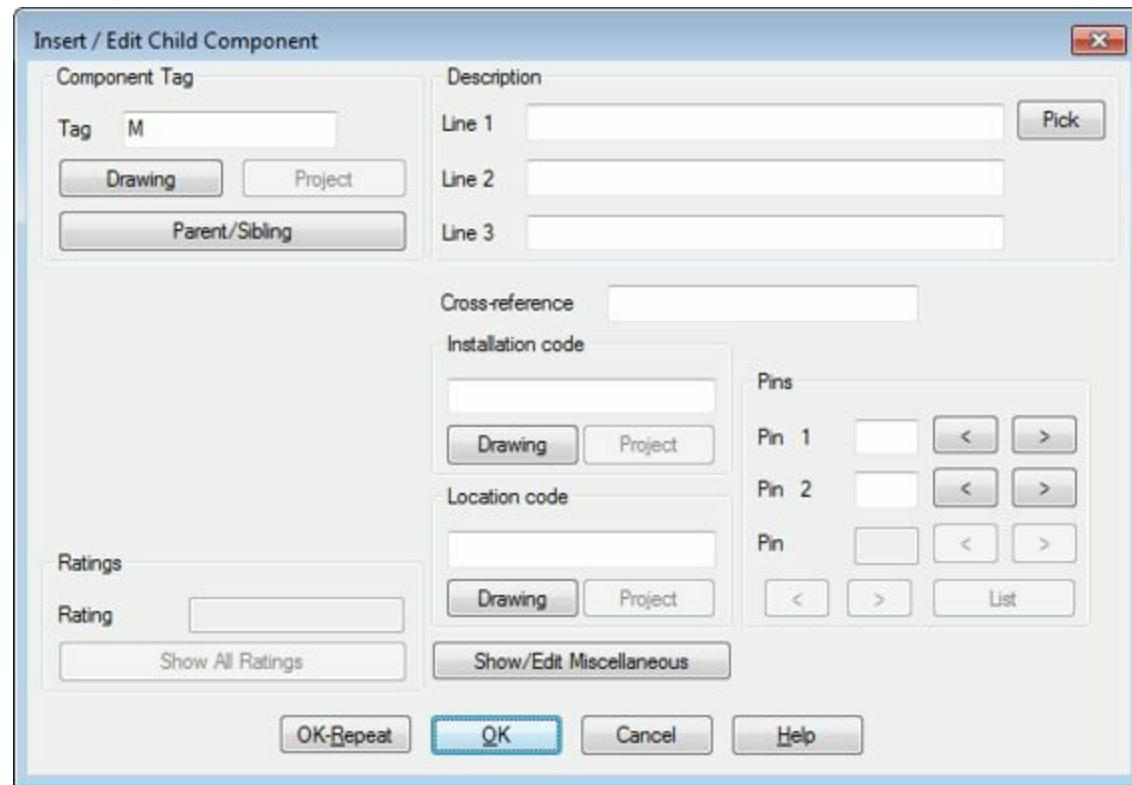

Figure-22. Insert or Edit Child Component dialog box
- Click on the **Down** button from the dialog box. The contacts will be placed and the **Insert/Edit Child Component** dialog box will be displayed; refer to Figure-22.